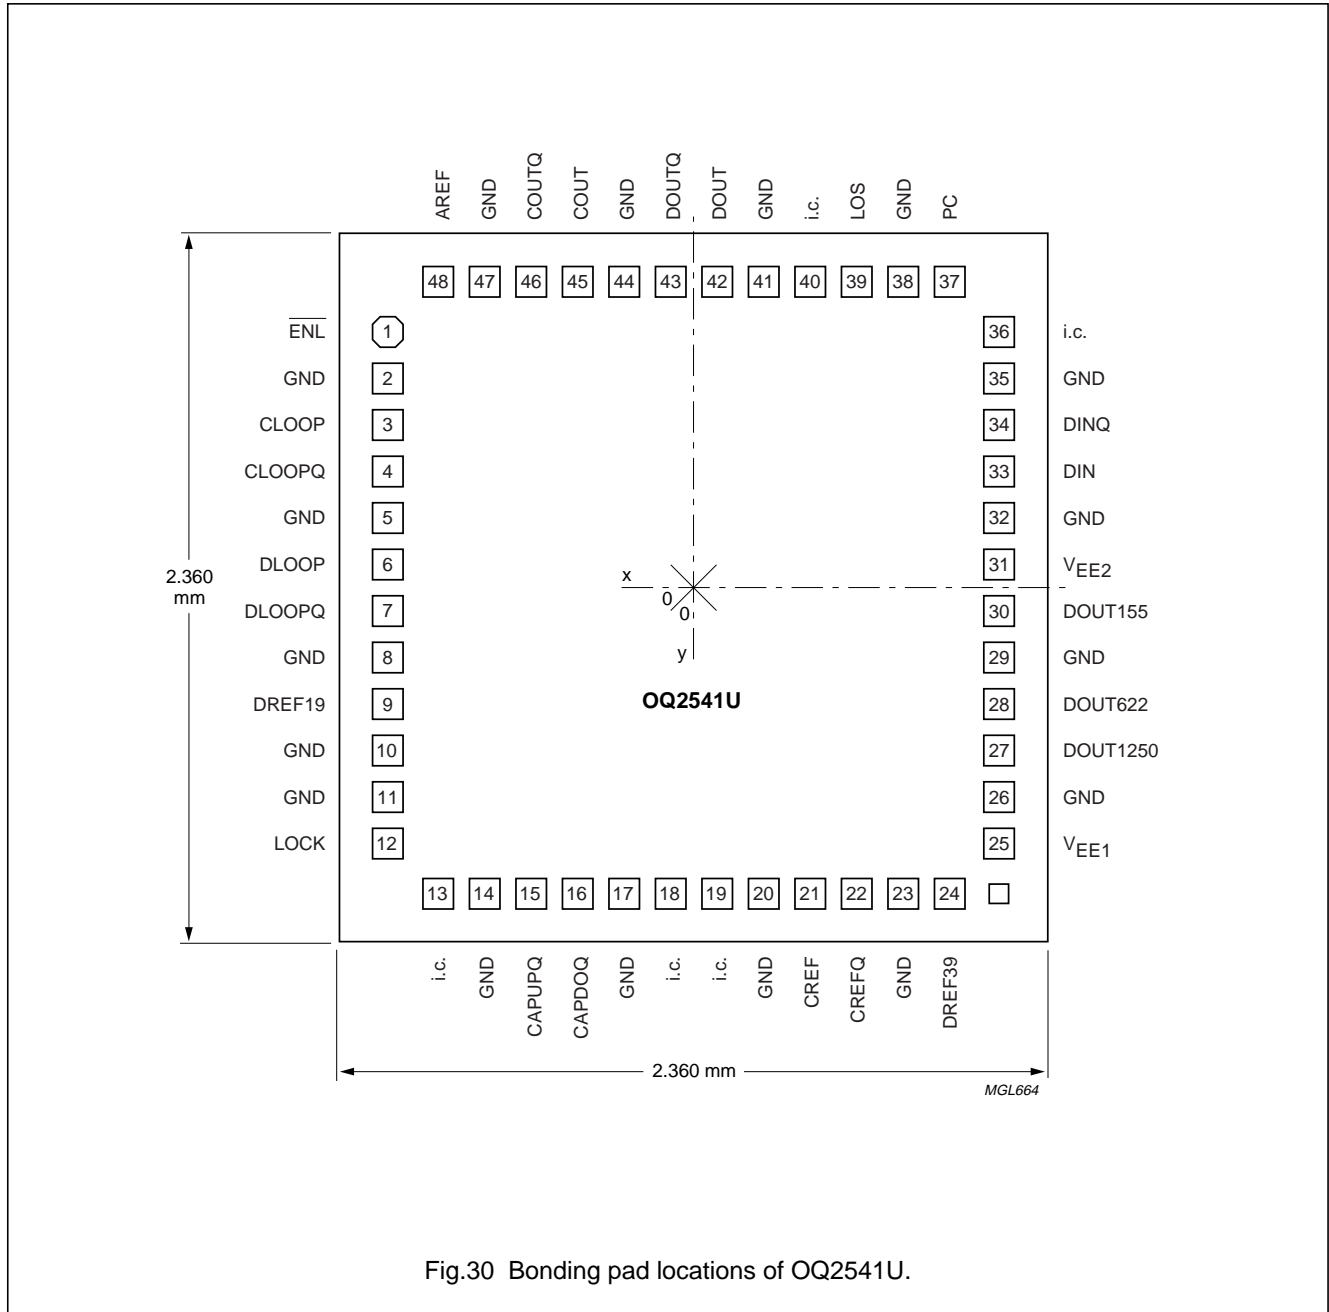

Fig.30 Bonding pad locations of OQ2541U.
- All x and y coordinates represent the position of the centre of the pad in  $\mu\text{m}$  with respect to the centre of the die (see Fig.30).